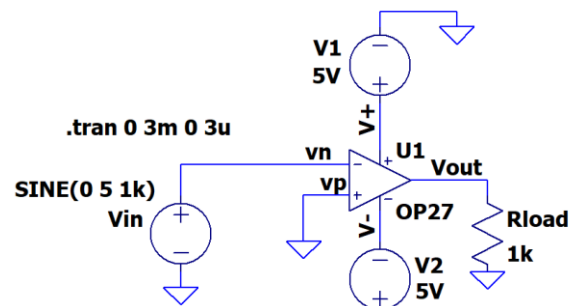

Figure B-1.
- Build the circuit in Figure B-1 using *LTspice*. Use Sine for V_{in} , set it for 1kHz and an amplitude of 5V.